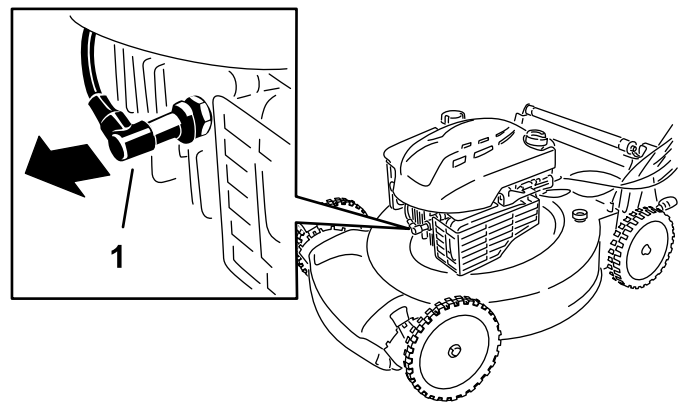

Figure 21
2. Disconnect the spark-plug wire from the spark plug (Figure 21).
2. Disconnect the wire from the spark plug (Figure 21).